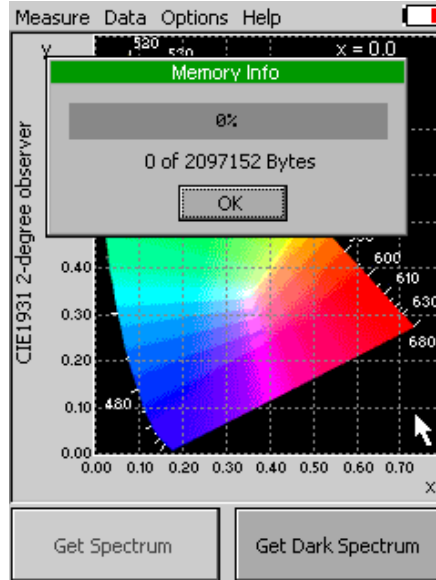

Fig. 11 Memory info.
- **Memory info** (Fig. 11) – displays info on current amount of used internal memory in the SpectraPen LM 510 device.